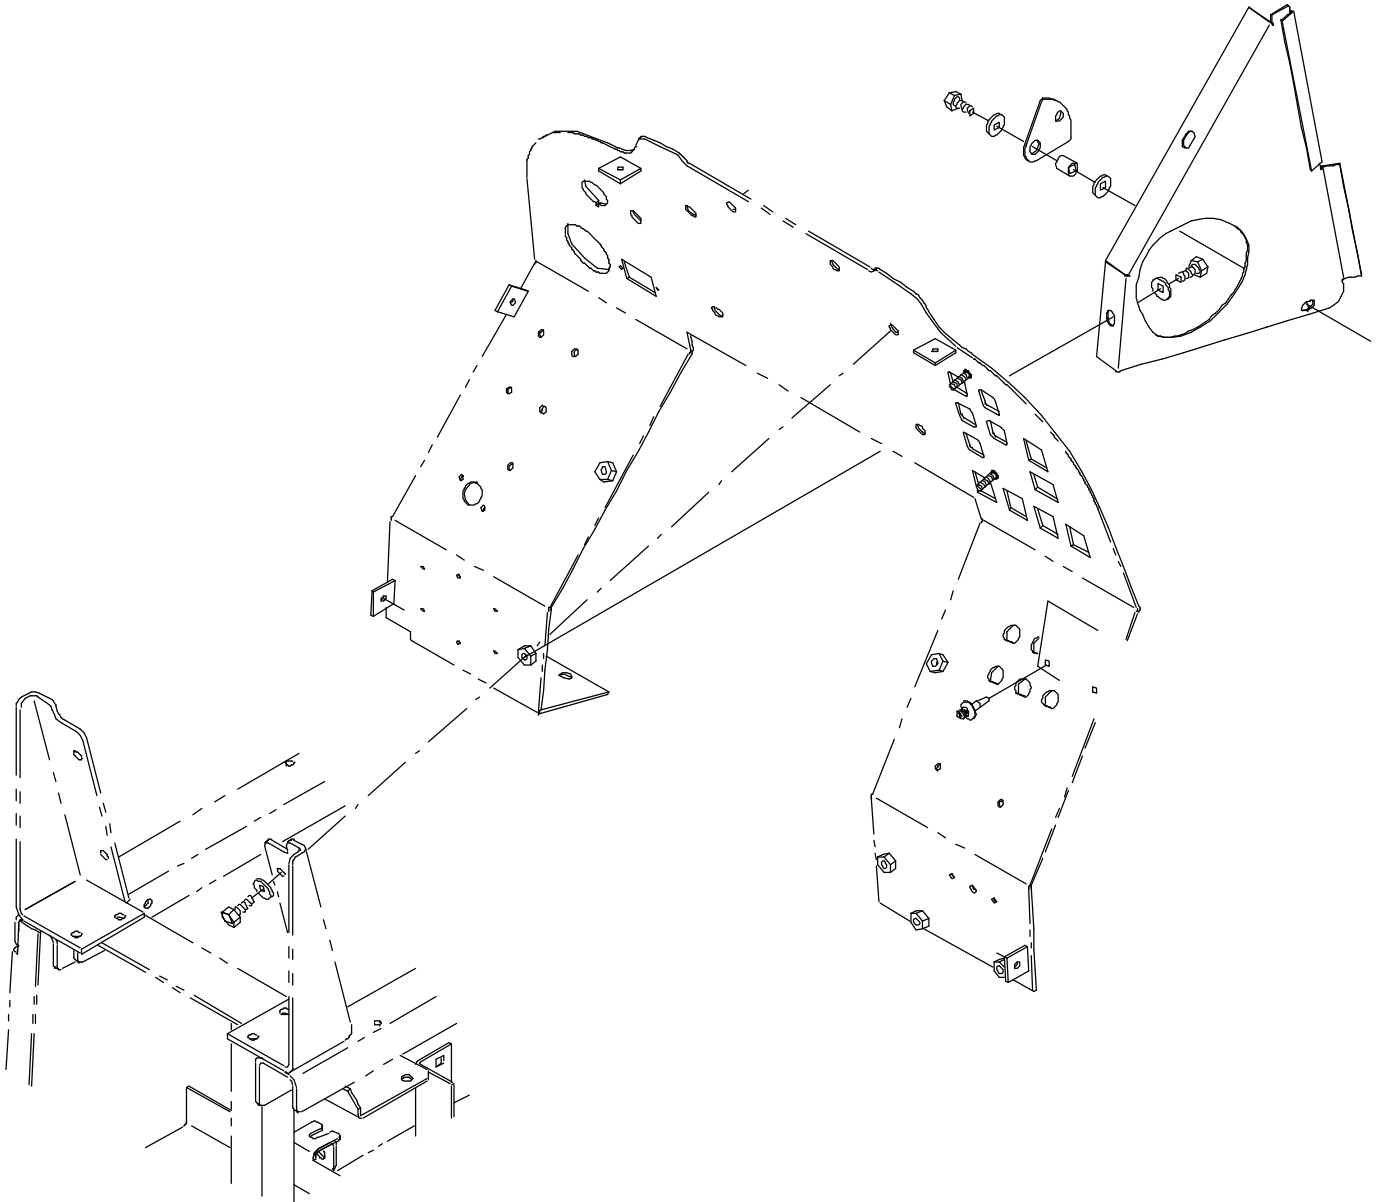

FIG. 1 - RIGHT HAND SIDE PANEL INSTALLATION
(Refer to FIG. 1 thru 6)
1. Remove the right hand side cover plate and mounting hardware. Set the cover plate and mounting hardware aside. (Refer to FIG. 1)